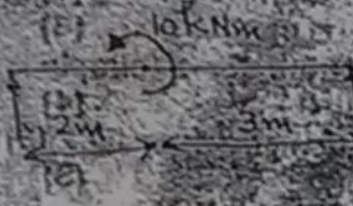

Fig 1
(d) A simply supported beam AB is loaded with a triangular load as shown in fig 1(d). Draw shear and bending moment diagrams. (3)
- (e) What are the assumptions and limitations in the flexure formula? (3)